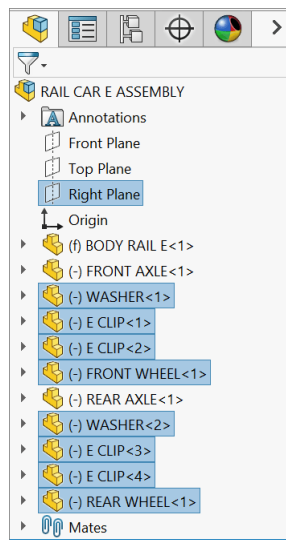

Fig. 36
Step 2. **Ctrl click Right Plane** , **both Washers, all four E Clips and both Wheels** in the Feature Manager to select Right Plane and all Parts except Body Rail E and Axles, **Fig. 36**. To Ctrl click, hold down Ctrl key and **Parts and Right Plane** .